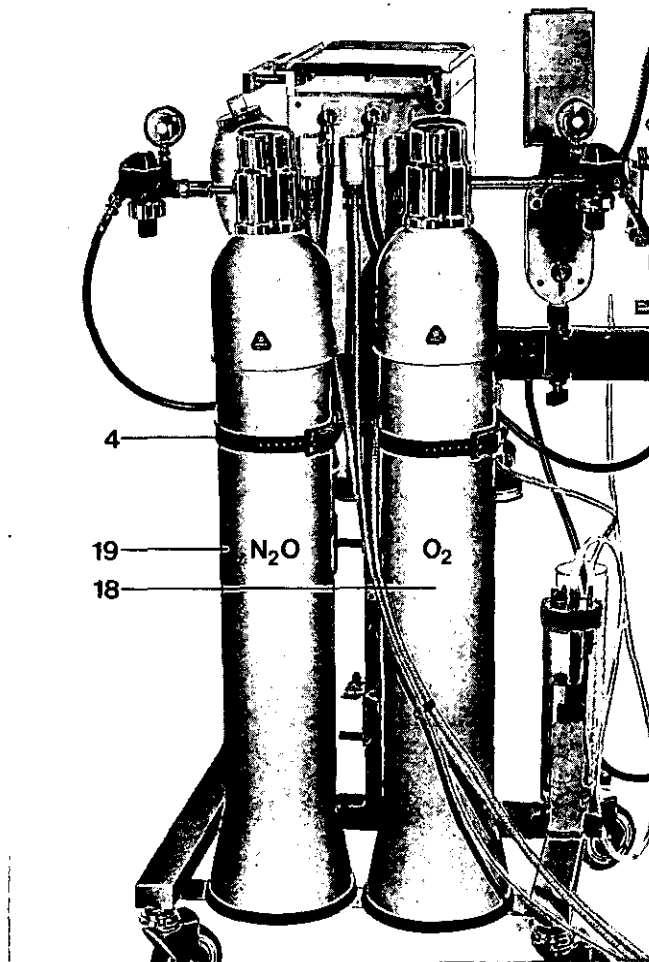
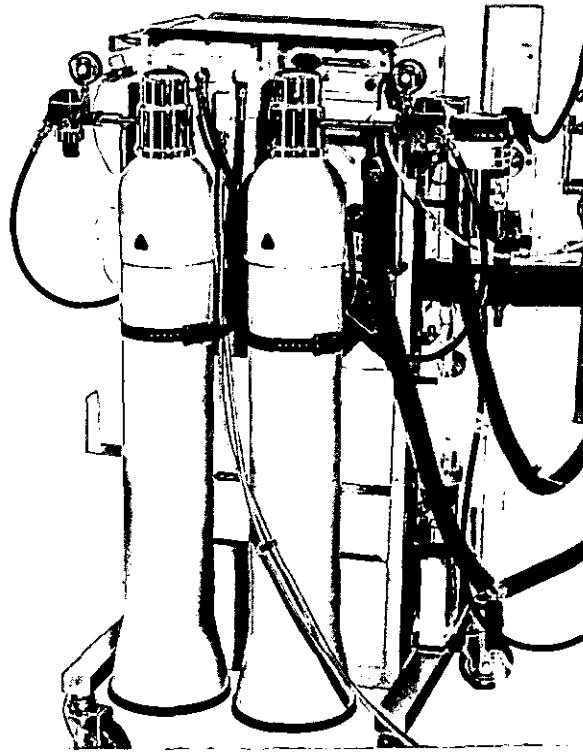

Fig. 5 Sulla 808: Back view, with large cylinders
Fig. 7 Sulla 808 V: Back view, with large cylinders
- Connection of 11 L cylinders (for Sullia 808, see Fig. 5; for Sullia 808 V, see Fig. 7).